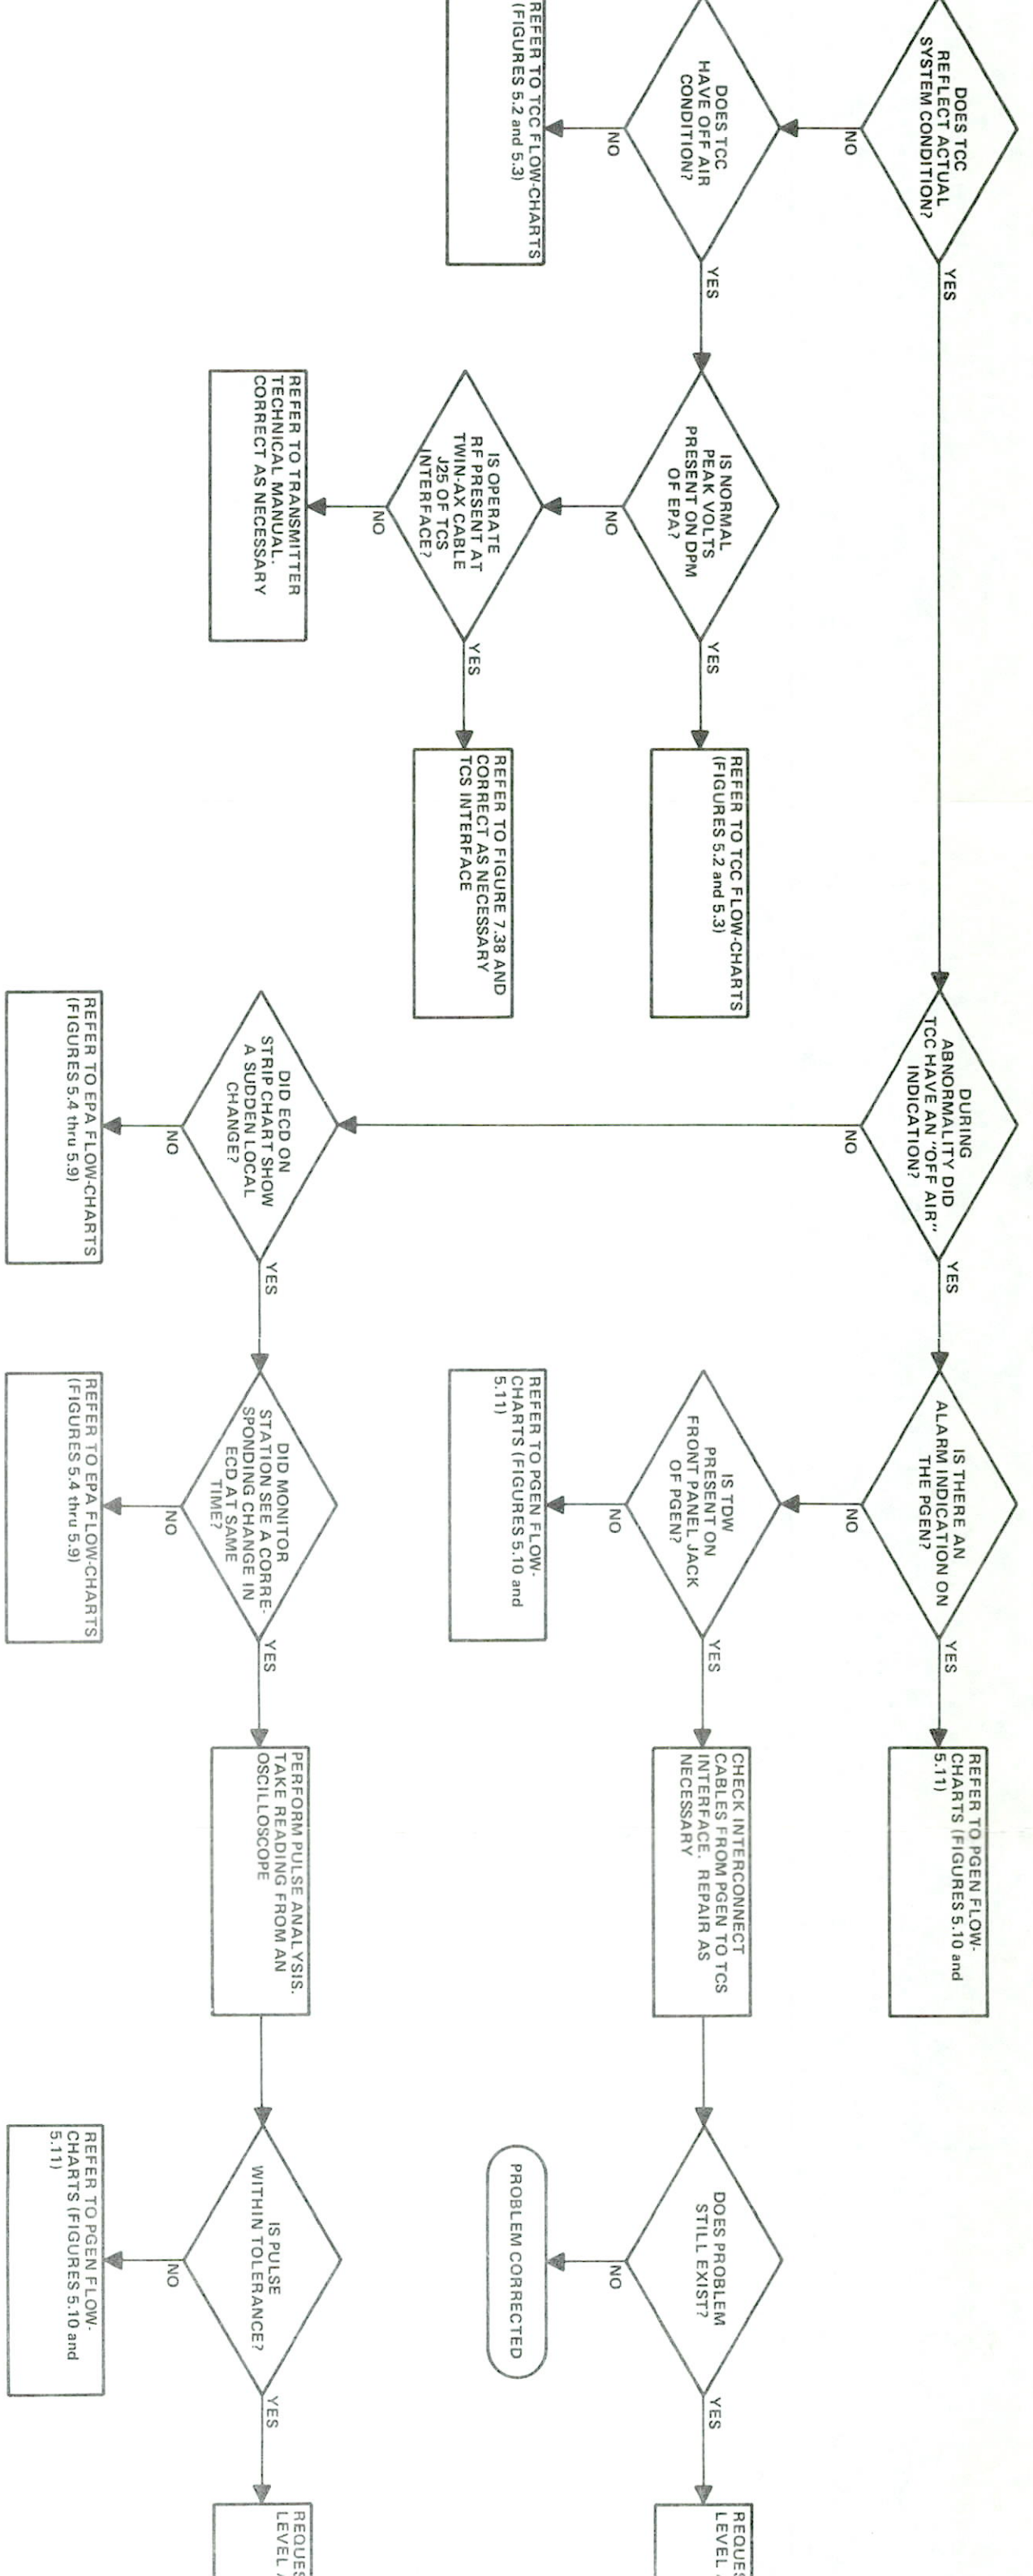

Figure 5.1. Transmitter Troubleshooting
5.3.1.1 Transmitter Control Set. The troubleshooting guide for the Transmitter Control Set is shown in Figure 5.1.